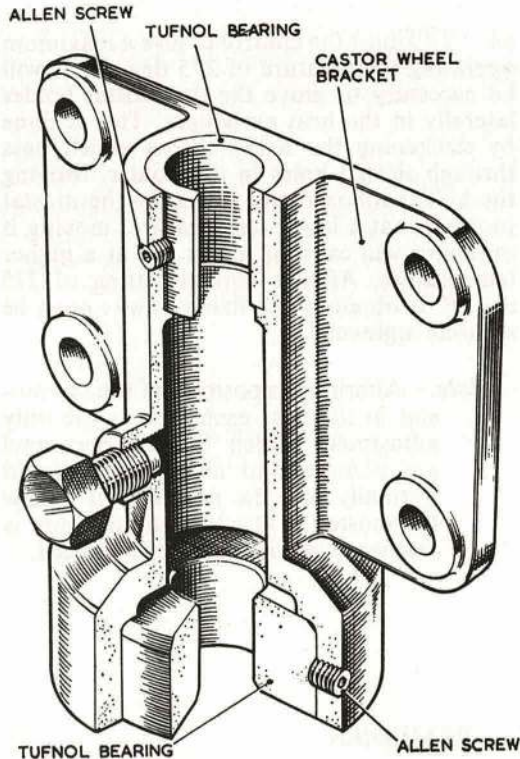

Fig. 18. CASTOR WHEEL FORK BEARINGS
61. To renew the bearings of the castor fork (Fig. 18), proceed as follows:—